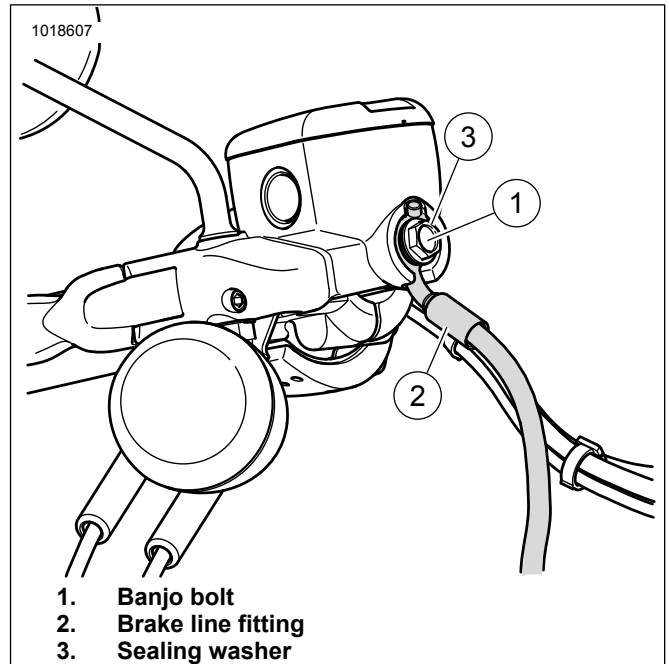
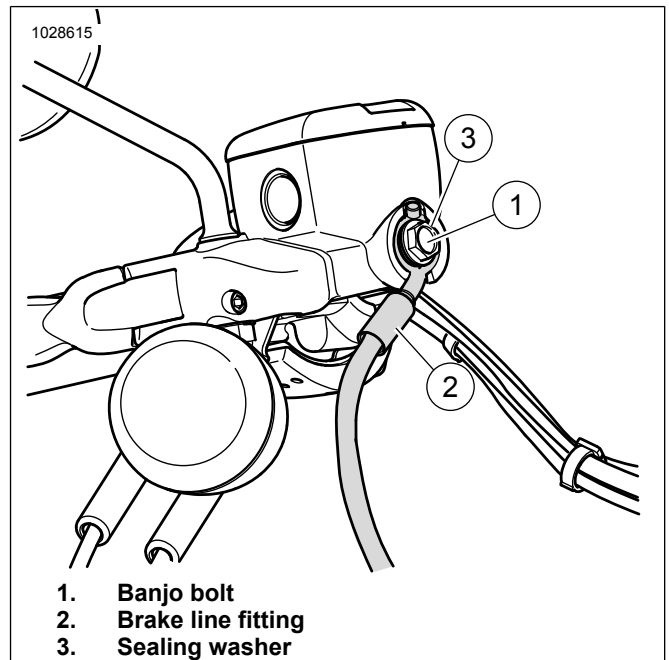

Figure 4. Brake Line Fitting, Banjo Bolt, and Seal
Figure 5. Brake Line Fitting, Banjo Bolt, and Seal
- a. See Figure 4 and Figure 5. Note that the brake line fitting (3) faces in-board. Remove banjo bolt (1). Retain for reuse. Remove sealing washers (2). Discard sealing washers. Loosen the brake line at the manifold below the lower fork bracket.